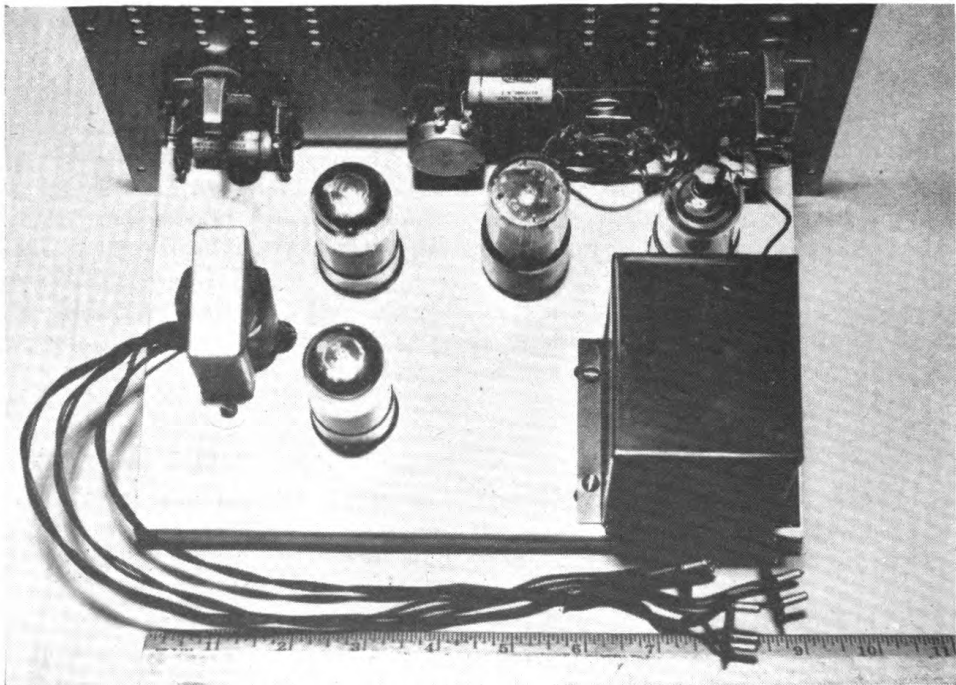

Figure 5. Amplifier, top of chassis and back of control panel.
13. REMOVAL OF AMPLIFIER (figs. 5 and 6).
- c. Disconnect the leads from the batteries (fig. 5).